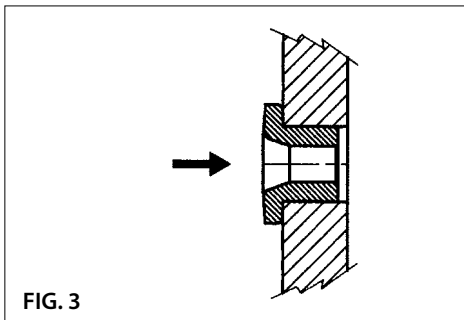

FIG. 3
2.4) Insert the AR...-1 copper bush into the rail hole (Fig. 3).